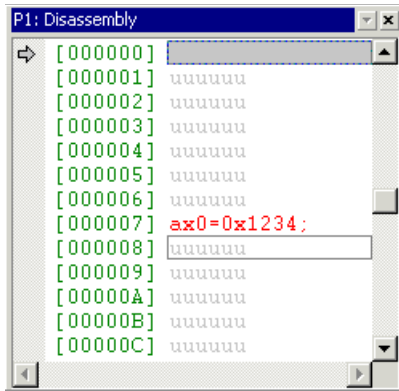

Figure 3-40. Disassembly Window: Patching a New Instruction into Processor P1's Memory
3. Type the instruction `ax0=0x1234` and press Enter. The instruction is written into P1's memory, and the Disassembly window is updated as shown in Figure 3-40 to reflect this new instruction.